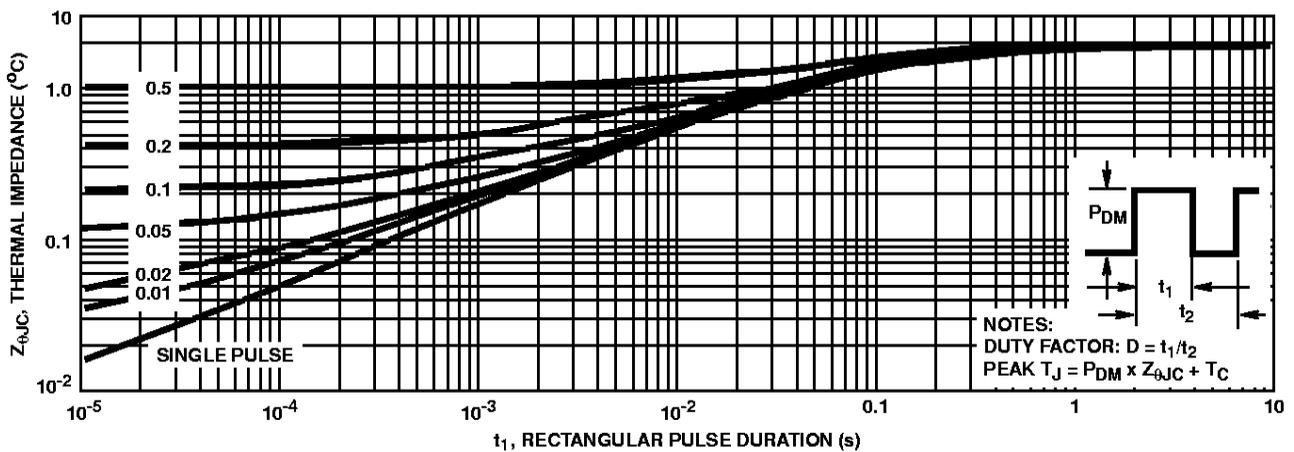

FIGURE 3. MAXIMUM TRANSIENT THERMAL IMPEDANCE
3. Repetitive rating: Pulse width limited by maximum junction temperature. See Transient Thermal Impedance curve (Figure 3).